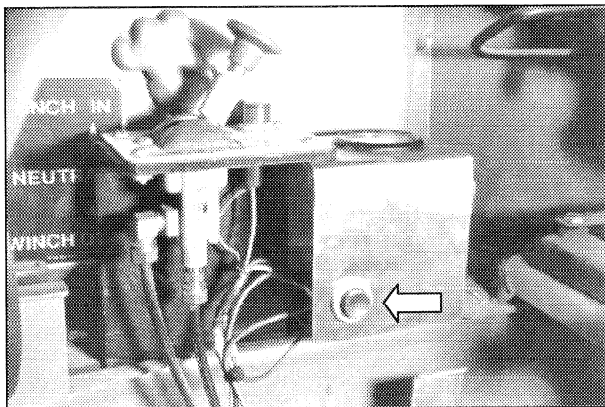

Figure 2 - Location of Push-Button Switch
12. Drill and fit push-button switch to the hour meter bracket as shown in Figure 2.